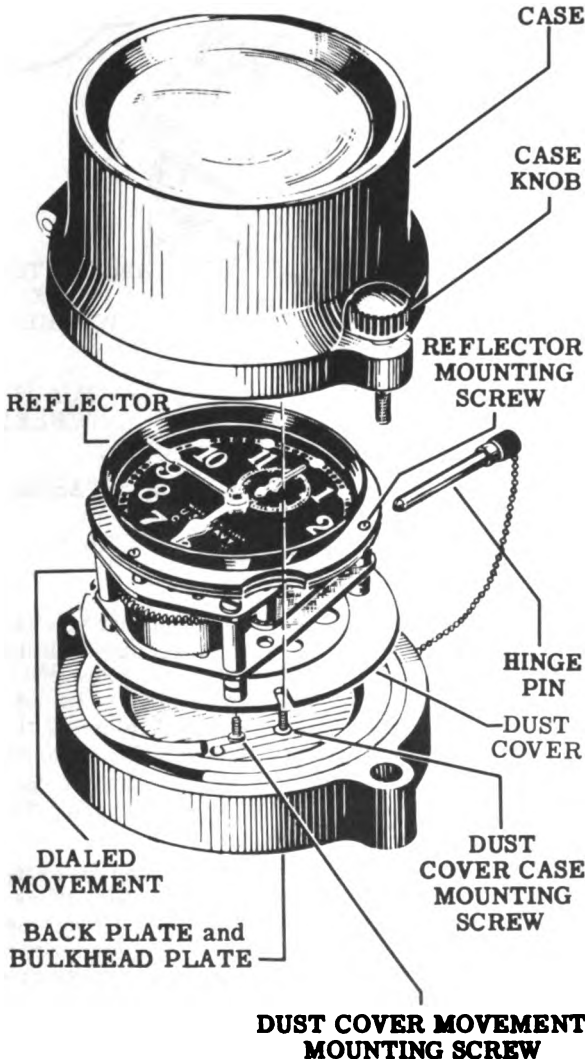
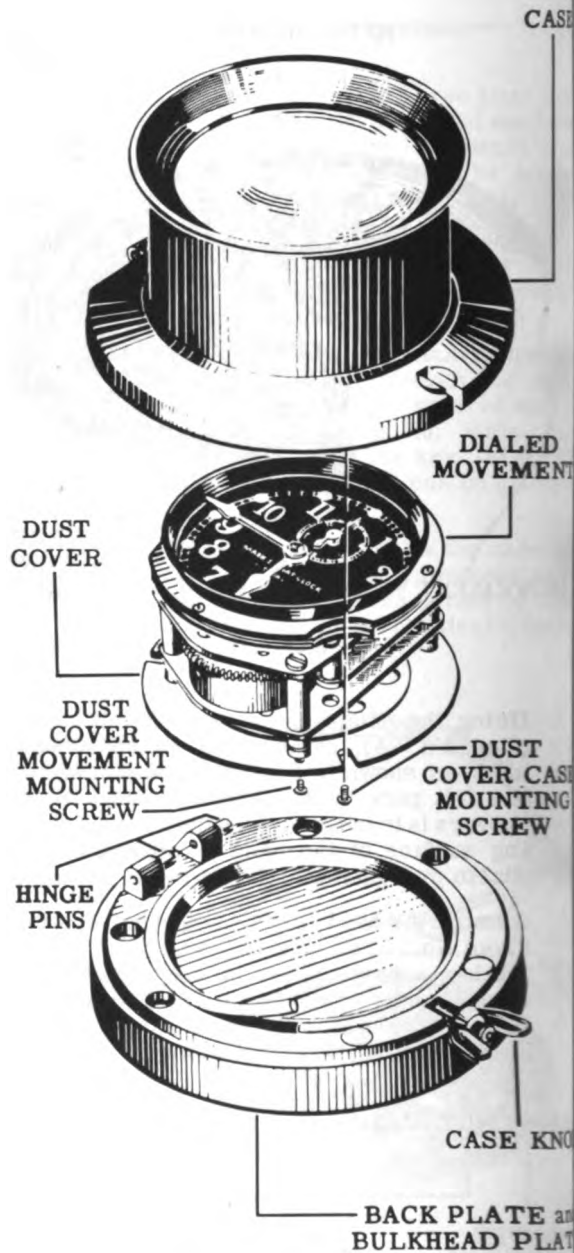

Figure 29—Phenolic Case Boat and Deck Clock
Figure 30—Metal Case Boat and Deck Clock
1. With the fingers, loosen the case knob on the side of the case (see Figs. 29 and 30) until the case is free to swing away from the back plate.
2. Work will be facilitated by separating the case from the back plate and bulkhead plate. This can be done by pulling out the hinge pin (see Fig. 29), or by unscrewing the hinge pins (see Fig. 30).
3. Place the case on the work bench, dial down. Remove the three dust cover case mounting screws which hold the dialed movement and the dust cover inside the case. See Figs. 29 and 30.
5. Remove the four dust cover movement mounting screws which hold the dust cover to the back plate of the movement and lift off the dust cover. See Figs. 29 and 30.